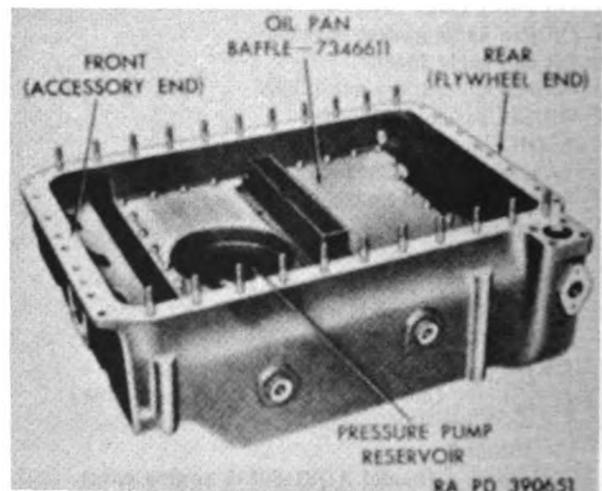

Figure 147. Oil pan baffle installed in oil pan.
d. Position a new oil pan baffle gasket (B) in oil pan assembly (E). Install oil pan baffle (C) over gasket on studs in interior of oil pan assembly and secure with thirty ¼-inch slotted hex nuts (D). Secure nuts together, in pairs, with locking wire as shown in figure 147.